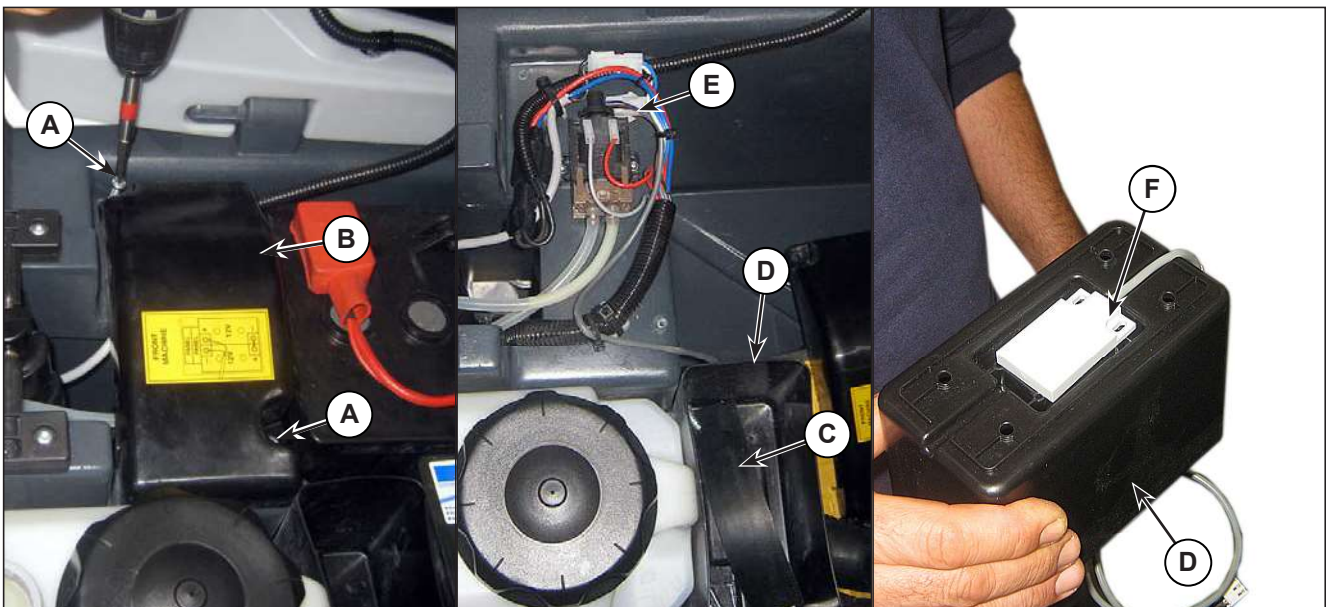

Figure 15:
4. Unscrew the two screws (A) (Figure 15) and remove the cover (B).
5. Unscrew the two screws (C) and lift the tank (D).
6. Disconnect the connector (E).
7. Disassemble and remove the water level sensor (F).